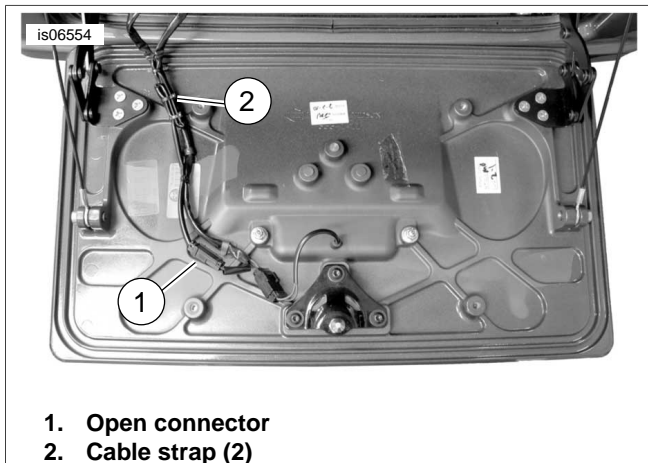

Figure 3. Trunk Light Connection (2011- Later Models)
2011- 2013 Models: See Figure 3. Plug the trunk light harness connector into the open connector (1) on the trunk door.